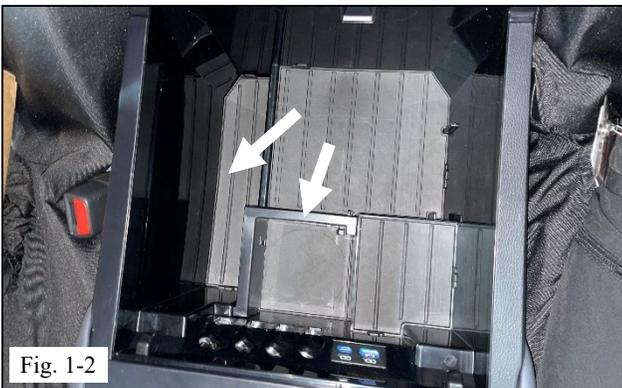

Fig. 1-2
- (b) Remove and discard the lower-level bottom mat and the plastic piece on the upper level identified in Fig. 1-2.